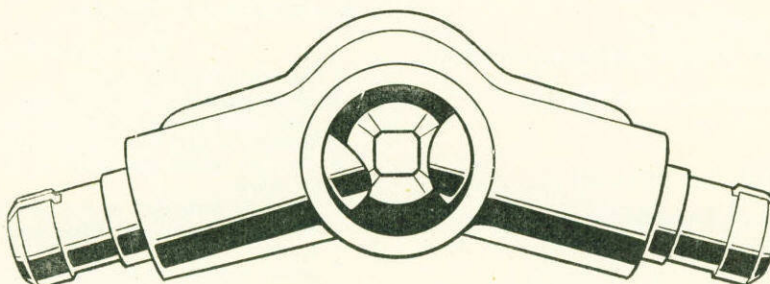

Fig. H-11—Two R.H. plungers in the housing.
- (c) Two R.H. plungers in the housing (Fig. H-11).